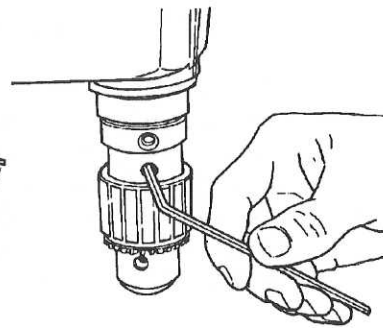

Fig. B-52
10. To install the drill chuck, mount the chuck on the spindle and align the chuck's setscrew with the spindle knob's setscrew, as shown in Fig. B-52. This allows the chuck's setscrew to set on the flat part of the spindle. Use a 5/32" Allen wrench to securely tighten the drill chuck's setscrew.